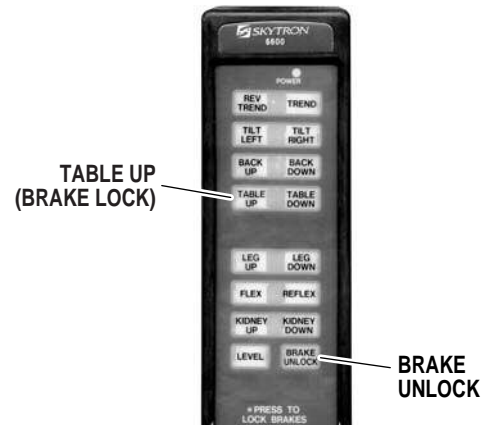

Figure 3-3. Brake System Activation
a. **Floor Lock/Brake System.** To activate the brakes without affecting table positioning, press the TABLE UP button. See figure 3-3. The elevation cylinder will not function until the brakes are completely extended.
Press the BRAKE UNLOCK button on the pendant control to release the four self-leveling brake feet in order to move the table. See figure 3-3. The brake delay circuit automatically retracts the brake system. It takes approximately 7-8 seconds to totally release the system.